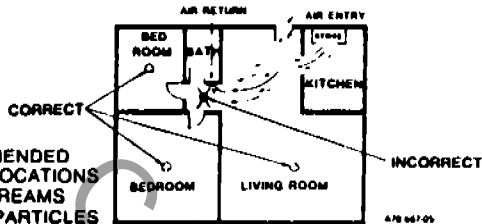

Figure 6: RECOMMENDED SMOKE DETECTOR LOCATIONS TO AVOID AIR STREAMS WITH COMBUSTION-PARTICLES
- In air streams passing by kitchens. Figure 6 shows how a detector can sense combustion products in normal air-flow paths. The picture shows how to correct this problem.